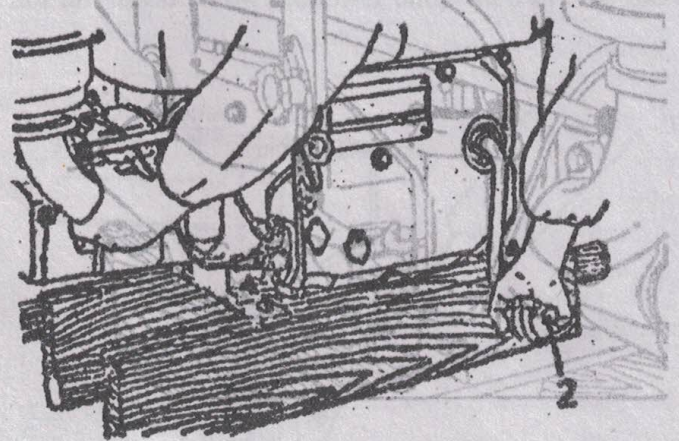

Fig. 8 Starting the engine by means of the starting handle
2. Move the decompression lever towards the right with your left hand and hold it. Crank the engine with your right hand by means of the starting handle and gradually speed up. When the cranking speed attains its maximum, suddenly release the decompression lever so as to let the air in the engine cylinder now subject to compression, but continue to crank the engine with effort. Then the engine will start up running itself (Fig. 8). Cautino, Once the engine starts up running, the starting handle, because of the action of the spiral-jaws on its clutching end, will disengage and jerk out of itself, and therefore the operator must keep on holding it firmly in order to prevent any incident.